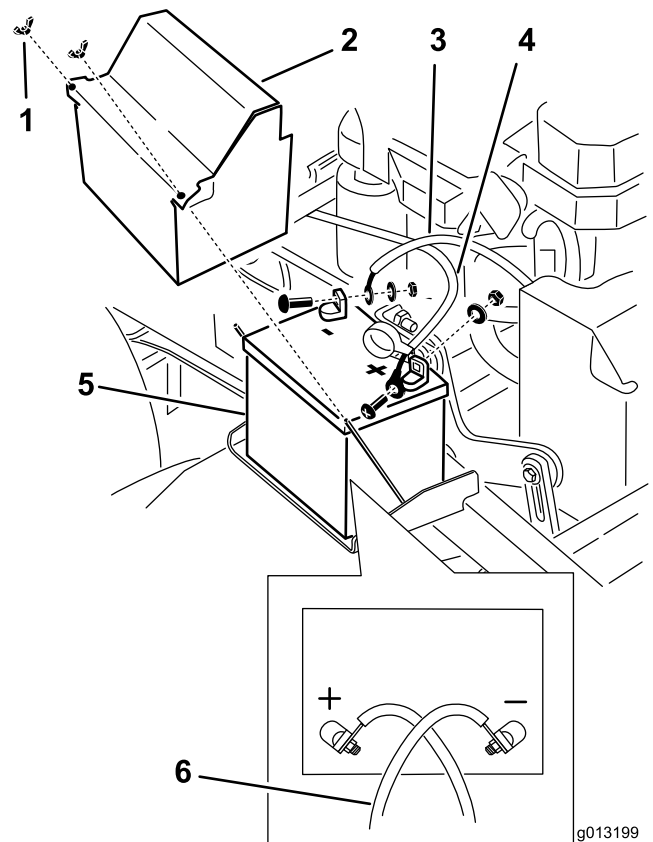

Figure 50
3. Disconnect the negative battery cable from the negative (-) battery terminal (Figure 50).
4. Slide the red terminal boot off the positive (red) battery terminal. Then remove the positive (red) battery cable (Figure 50).
5. Remove the battery hold down plate (Figure 50) and remove the battery.
1. Place the battery onto the machine (Figure 50).
3. First, install the positive (red) battery cable to positive (+) battery terminal with a nut, washer and bolt (Figure 50). Slide the rubber cover over the post.
4. Then install the negative battery cable and ground wire to the negative (-) battery terminal with a nut, washer and bolt (Figure 50).
**Note:** The battery cables will crossover each other when they are correctly installed (Figure 50).